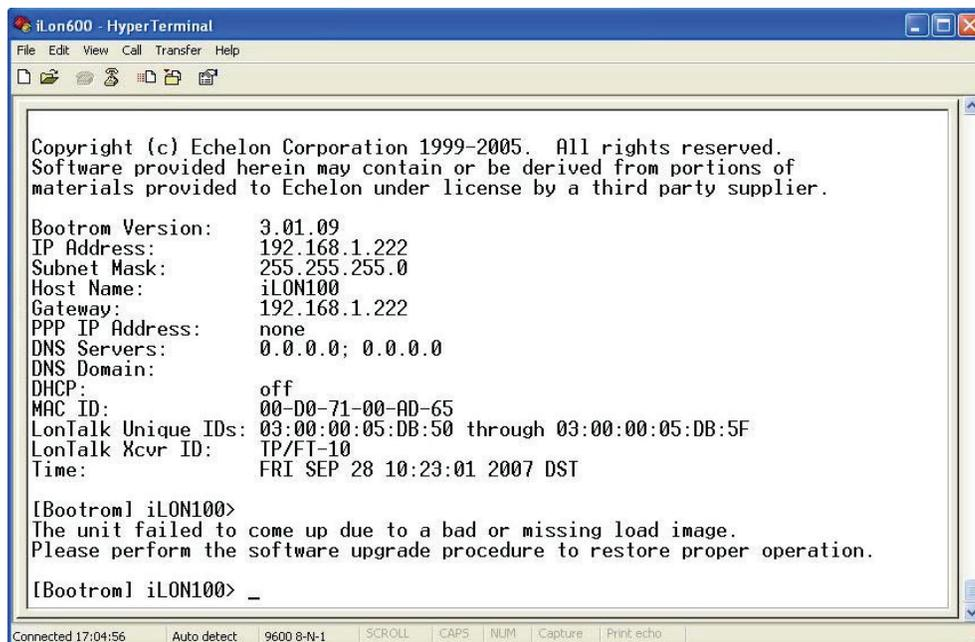

FIGURE 4-7. *i.LON 100* IN THE BOOTROM MODE AFTER FORMATTING
1. Verify the IP Address. The IP address will be displayed when the *i.LON 100* finishes rebooting (see Figure 4-7).
2. You can also type **show**, and press **Enter** to see the information shown in Figure 4-7.
NOTE: Figure 4-7 shows you what IP address is assigned to your iLon and other information. Every iLon100 comes from the factory with the IP address 192.168.1.222 assigned.